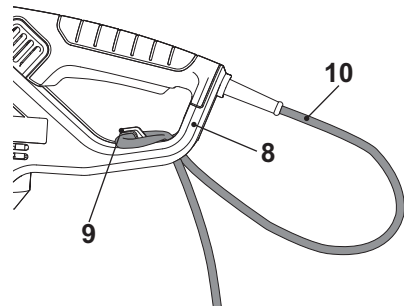

Fig. 3
2. Pull it over the cord retainer (9) and gently tug on the power cord (10) to ensure that it is firmly secured (Fig. 3).